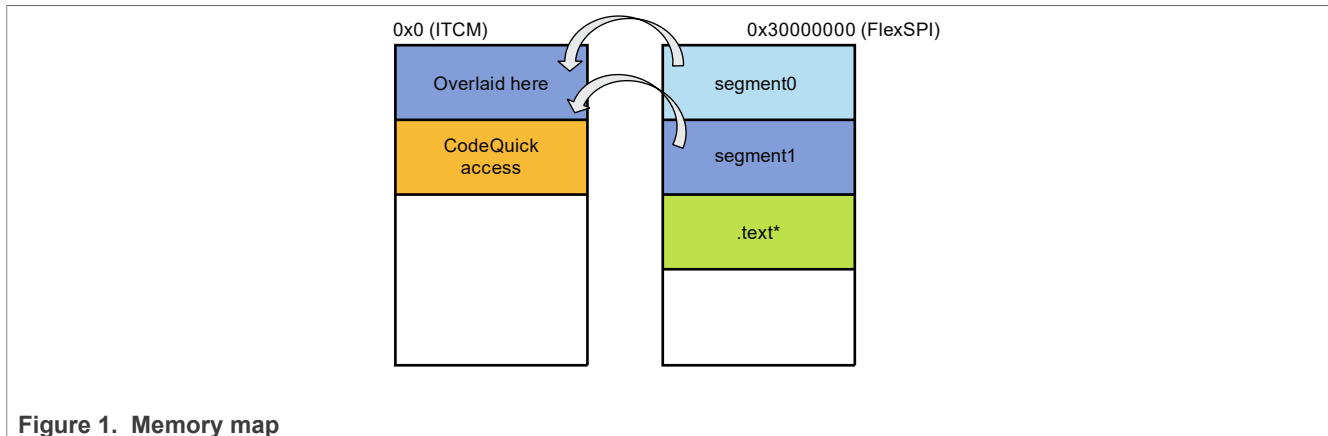

Figure 1. Memory map
- The section `segment0` and the section `segment1` are loaded dynamically from the external flash to ITCM, as shown in Figure 1.